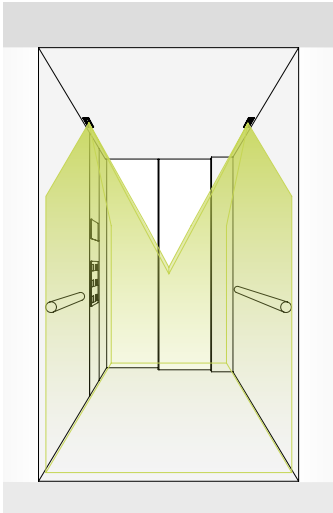
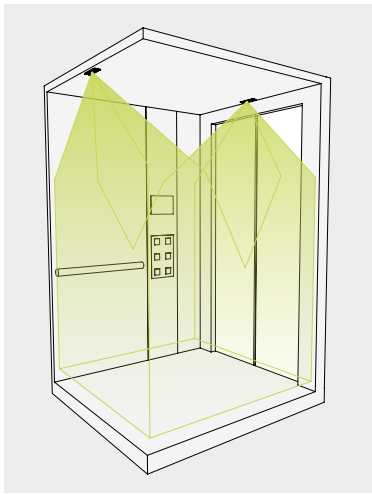

Figure 9: Sidewall position (left/right)
Figure 10: Front and back position
- ▶ The CabSens 3D sensors can be mounted either to the left/right sides (Figure 9) or front/back ends (Figure 10).